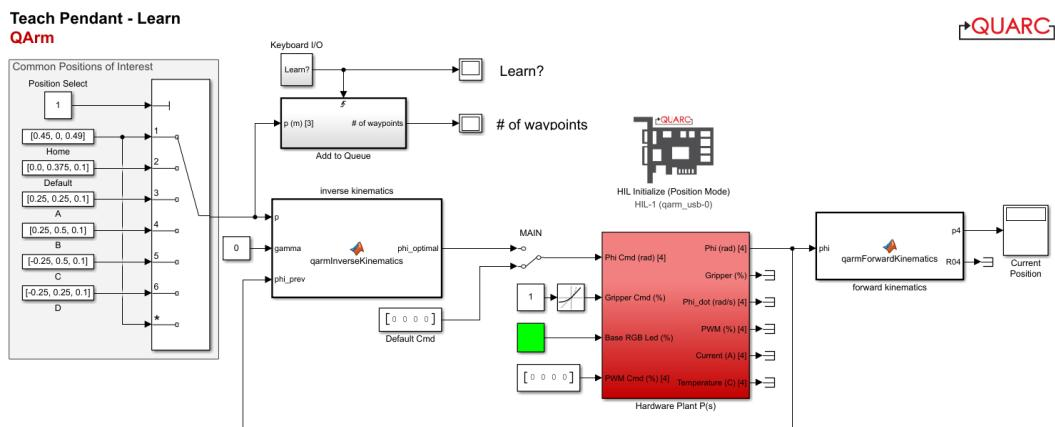

Figure 2: Simulink model `TeachPendant_Learn.slx`
1. Open the Simulink model TeachPendant_Learn.slx (Figure 2). You will use this model to "teach" the Quanser QArm a series of waypoints that simulate a robotic assembly process. This model emulates the learning mode of a real teach pendant.